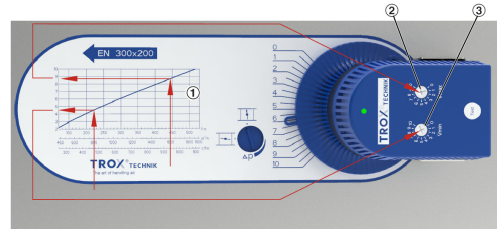

Fig. 11: Setting the volume flow rate
1. ▶ Using the volume flow rate scale (Fig. 11/1), determine the setting value (1-10) for the desired volume flow rate (l/s, m³/h, or cfm).
2. ▶ Set the desired value at the Vmin potentiometer (Fig. 11/3).
3. ▶ Set the desired value at the Vmax potentiometer (Fig. 11/2).
Settings according to scale Fig. 11: